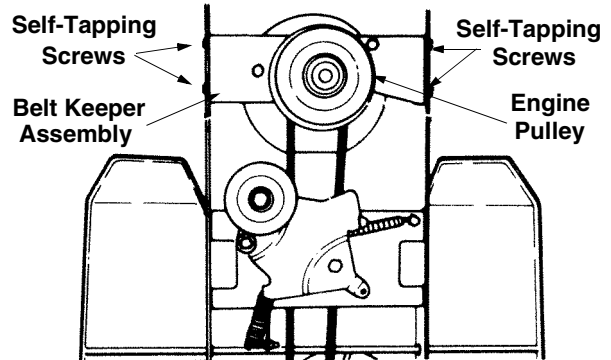

Figure 29
- Remove the four self-tapping screws which hold the belt keeper assembly to the frame at the engine pulley. Push the belt keeper assembly forward, out of the way. See Figure 29.